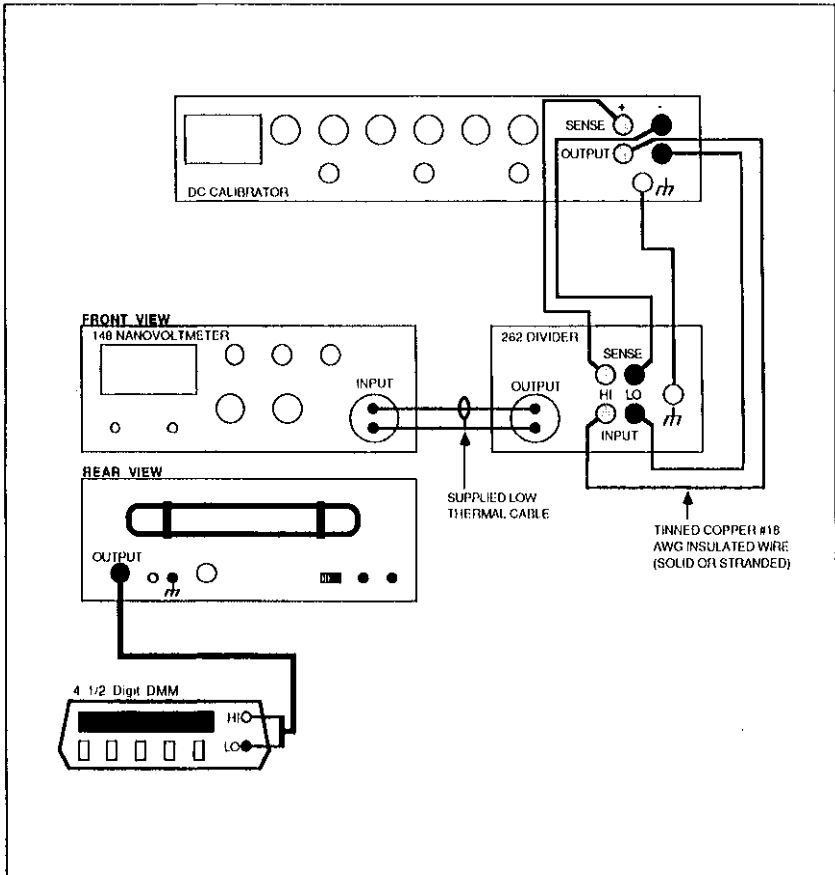

Figure 2. Analog Nanovoltmeter Calibration
1. Set up the equipment as shown in Figure 2. Use a DMM, such as the Keithley Model 178, to monitor the analog output of the Model 148. Make sure the DC Voltage Calibrator has an accuracy of 0.001% or better.